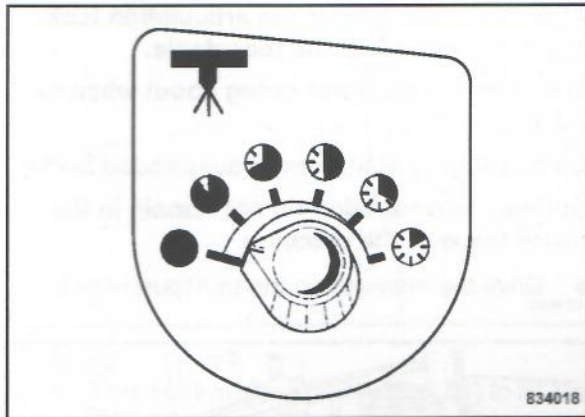

Fig. 45
- Set the interval switch (Fig. 45) to the desired sprinkling interval.